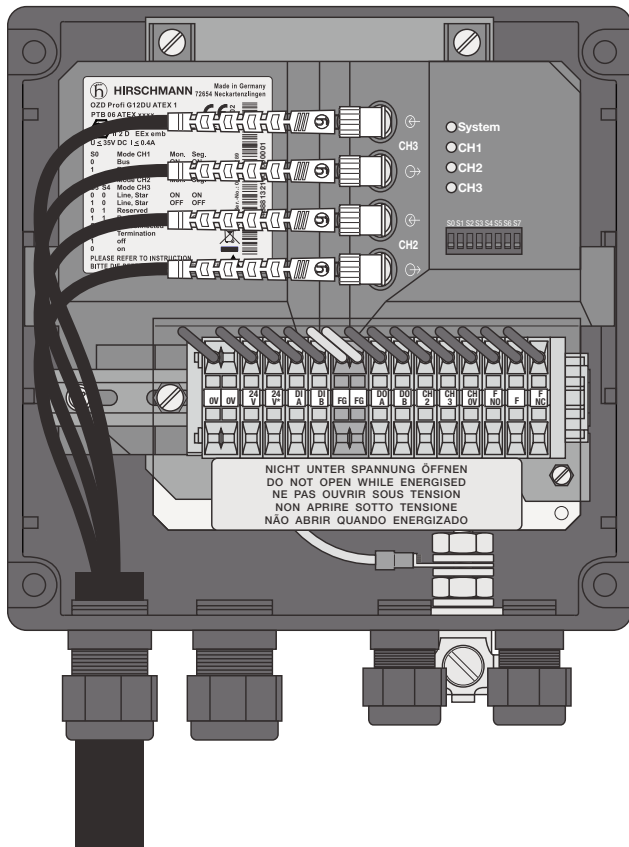
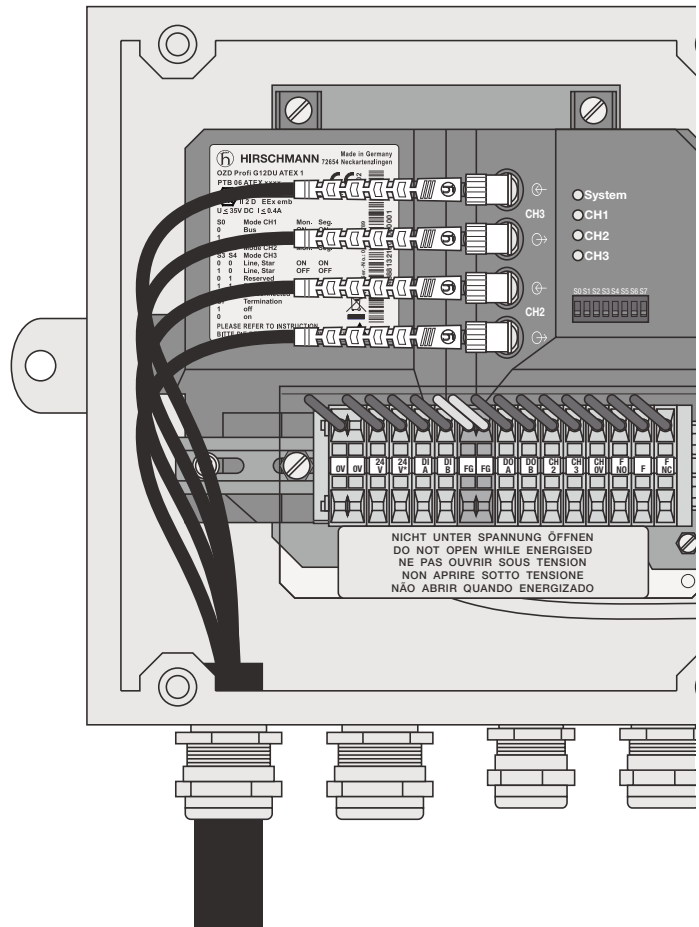

Fig. 20: Cable routing of the fibre optic cable for OZD Profi G12DK ATEX 1
Fig. 21: Cable routing of the fibre optic cable for OZD Profi G12DK ATEX 1
- ▶ Lead the fibre optic cable for OZD Profi G12DK ATEX 1 and OZD Profi G12DE ATEX 1 as shown in figure 20 and figure 21 via cable entries (PG glands).